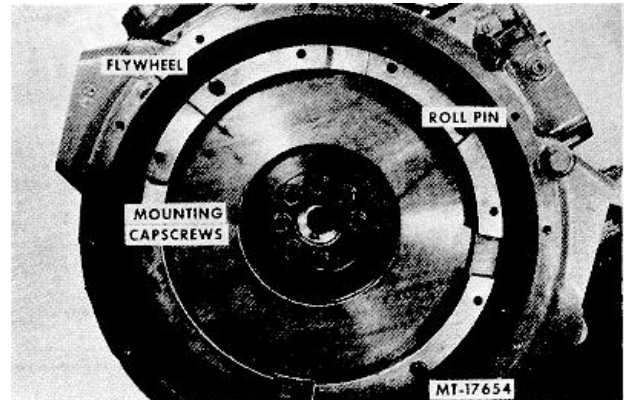

Fig. 36 Flywheel Removal
38. Remove seven mounting capscrews and remove flywheel assembly and roll pin from the crankshaft flange (Fig. 36).